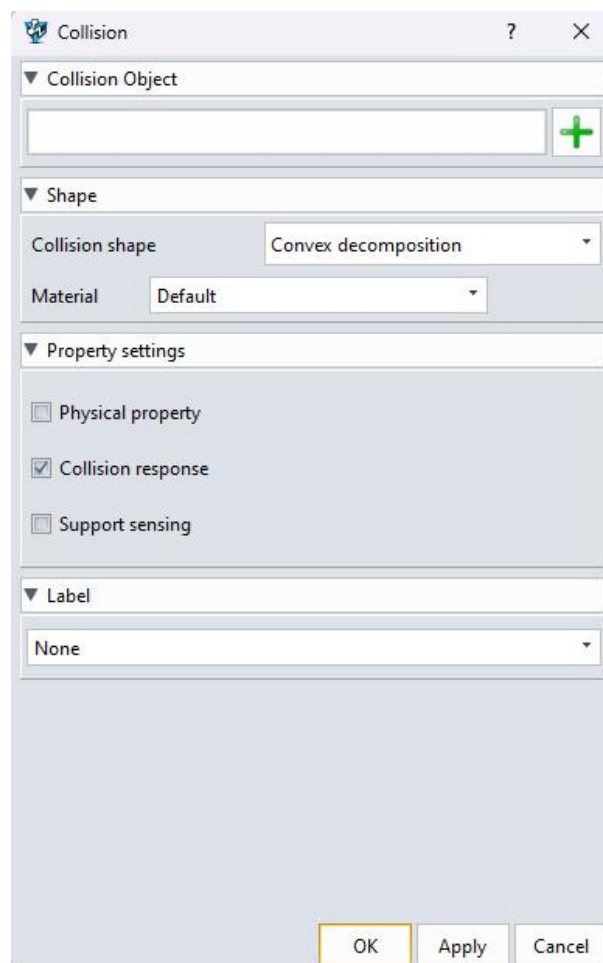

Figure 3-7: Collision
- Collision material: defines the basic characteristics of the material in collision.(Figure 3-7)